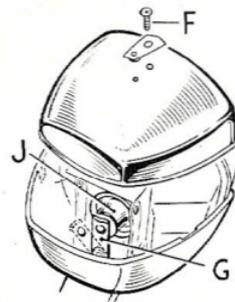

FIG. 15.
The headlight bulb is a C.E.V. 6 volt, 15 watts. To replace, remove the screw (F) Fig. 15, and take off the top cover of the lamp. The spring contact blade (G) can then be pushed aside and the bulb (J) withdrawn from its housing. Do not bend the blade backwards otherwise there will be faulty contact at the bulb.